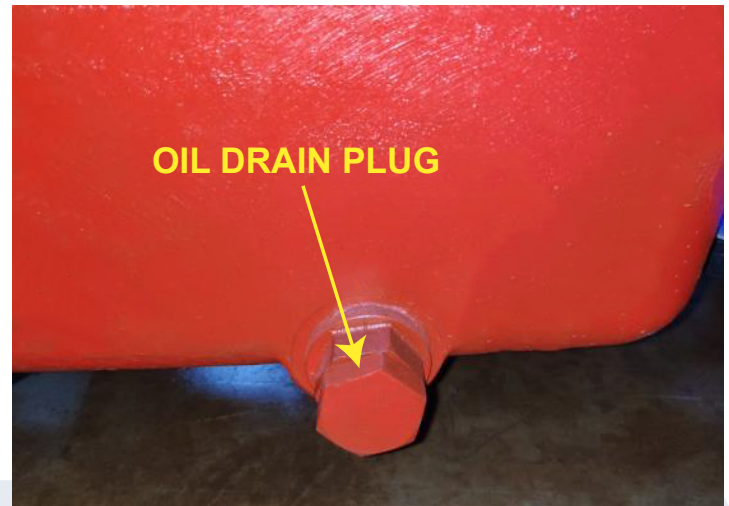

FIGURE 26 - OIL DRAIN PLUG
- Remove the drain plug on the bottom of the diesel engine oil pan. See FIGURE 26.